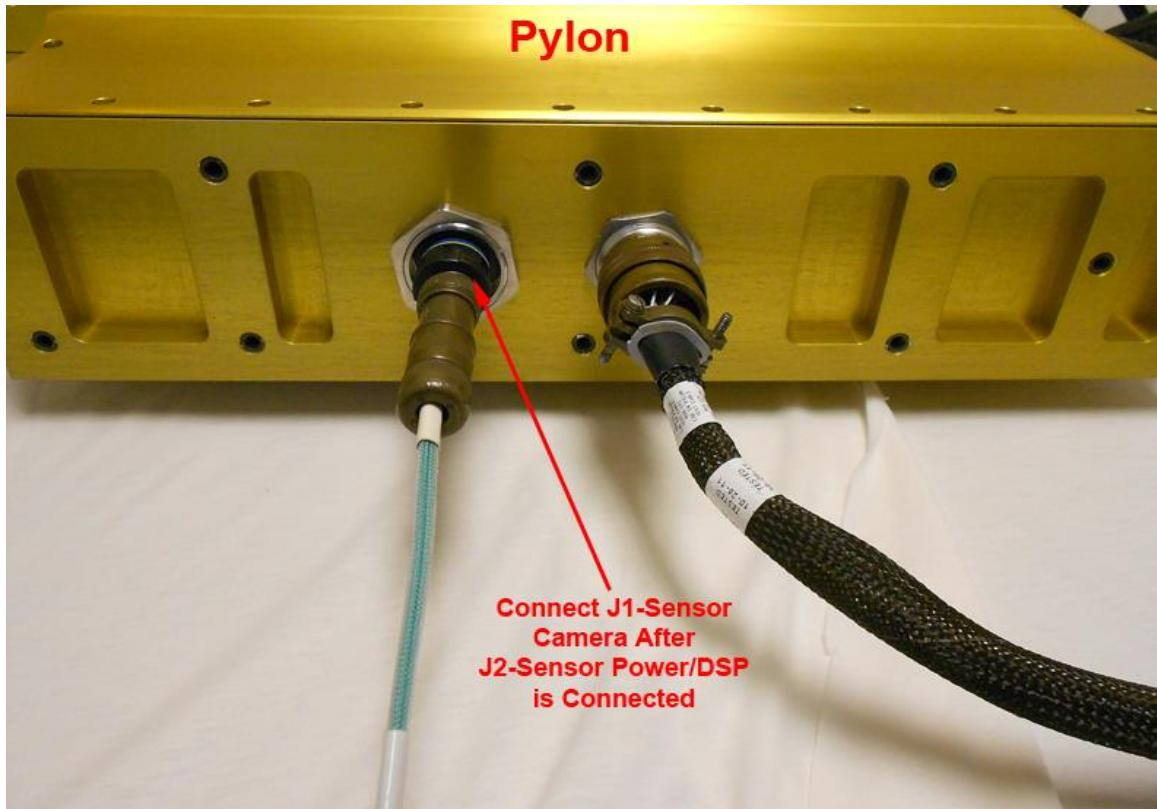

Figure 2.2.14 Connecting the sensor camera cable to the Sensor Head.
10. Connect the framegrabber cables from the Converters connected to J1 on the Data Acquisition System to J1 on the Sensor Head. See **Figure 2.2.10**: Connecting Fiber Cables to Converters, and **Figure 2.2.14**: Connecting the sensor camera cable to the Sensor Head.
8. Connect the sensor camera cable that runs from J1 on the Data Acquisition System to J1 on the Sensor Head. See **Figure 2.2.14**: Connecting the sensor camera cable to the Sensor Head.